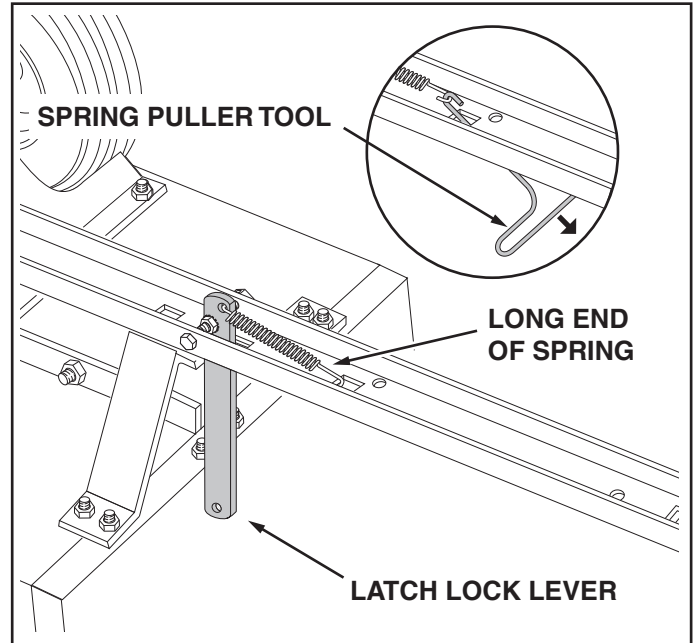

FIGURE 12
- Hook the **short** end of the spring into the hole in the latch lock lever. Use the spring puller tool to hook the **long** end of the spring into the square hole in the tongue. The spring puller tool can be stored when finished. See figure 12.